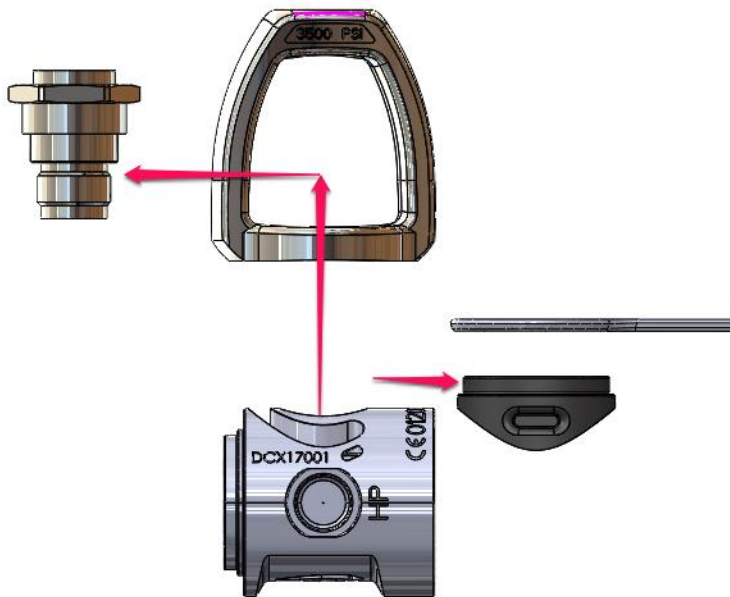

Fig. 20
26. Lift the Yoke Retainer 6564.8 clear from the Yoke 6562.8 and remove Yoke, Saddle 6585 and Dust Cap 6878 (Fig. 20). Remove Body from vise.